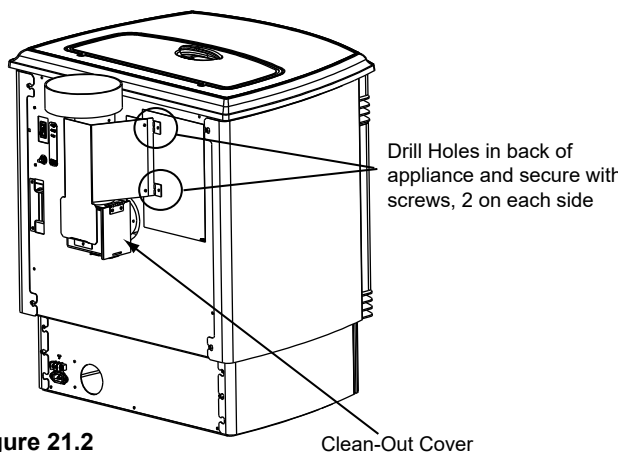

Figure 21.2
3. Drill 4 holes with #26 drill bit (provided) into the back of the appliance using the outer shield as a pattern (make sure the assembly is vertical) (Figure 21.2).
7. To clean the top vent adapter open the clean-out cover (Figure 21.2).